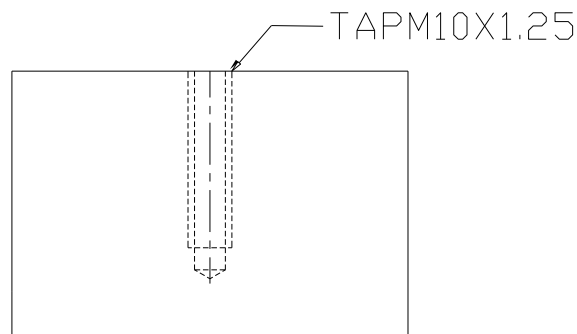

Figure 2
2. Figure 2 shows a threaded hole in a component. The hole was threaded using M10 X 1.50 mm taps. While carrying out the threading operation a tap broke in the hole and had to be removed before the job could be completed.